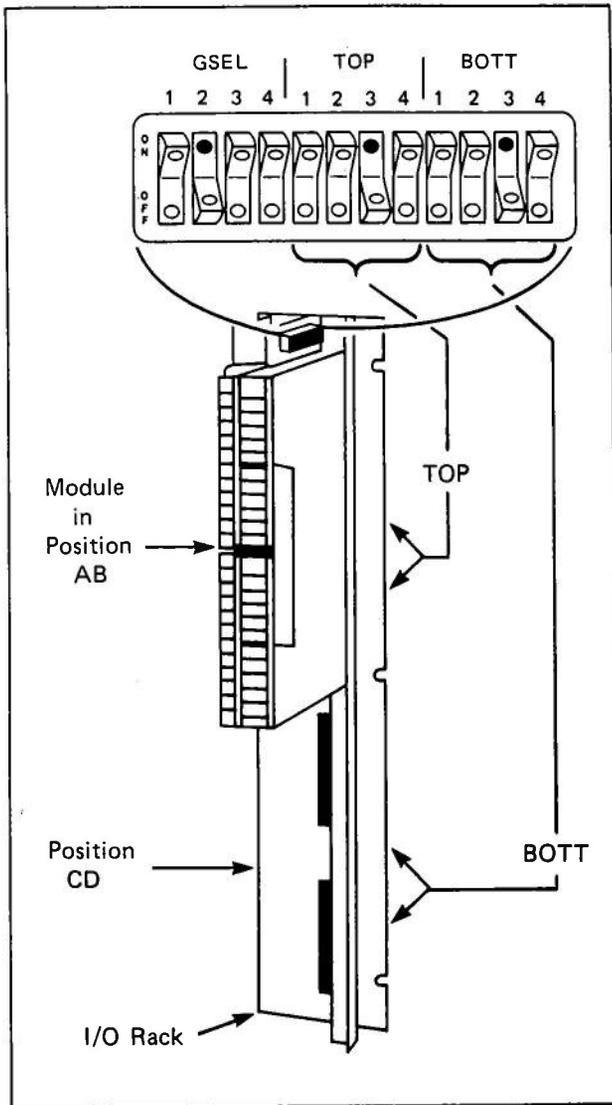

Figure 5 - Rack Switch Location
**Physical Placement** - Refer to the system drawings and determine the exact I/O Rack Positions in which the Module will be placed. (See Figure 5 for an explanation of "position.") Use a screwdriver to remove the terminal block adjacent to the top half of the Module to allow for its width. (See Figure 3.) Field wiring connects only to the lower terminals. Follow system wiring diagrams and carefully observe the type of conductor specified. A typical connection diagram is shown in Figure 4.
**Step 1** – Place the Module in the selected Position. Although a Module can be placed in either the upper 2 Positions or the lower 2 Positions, it may not straddle Positions B and C. See Figure 5. Also, it is important that it be placed according to the user program Reference Number scheme.
**Step 3** - At the top right-hand side of that I/O Rack, locate the Rack Switch assembly. (See Figure 5.) Note that it is divided into 3 groups of 4 rocker switches each. Locate those that make up the GSEL area.